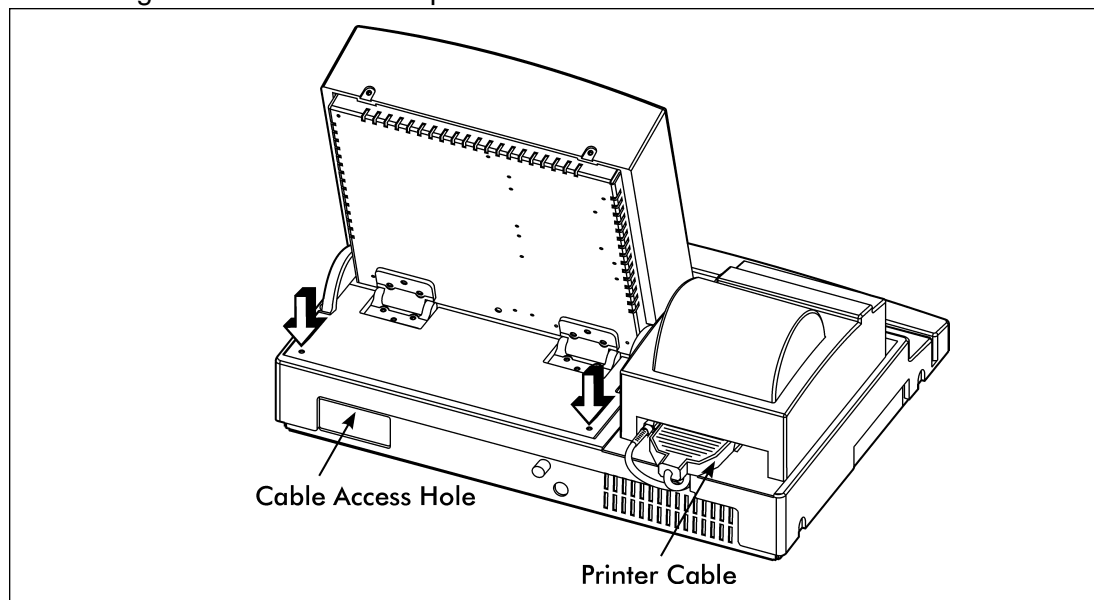

Figure 3-2, Connector Cover Plate
1. Refer to Figure 3-2 below to locate the cable access hole and the two screws securing the connector cover plate to the back of the unit.